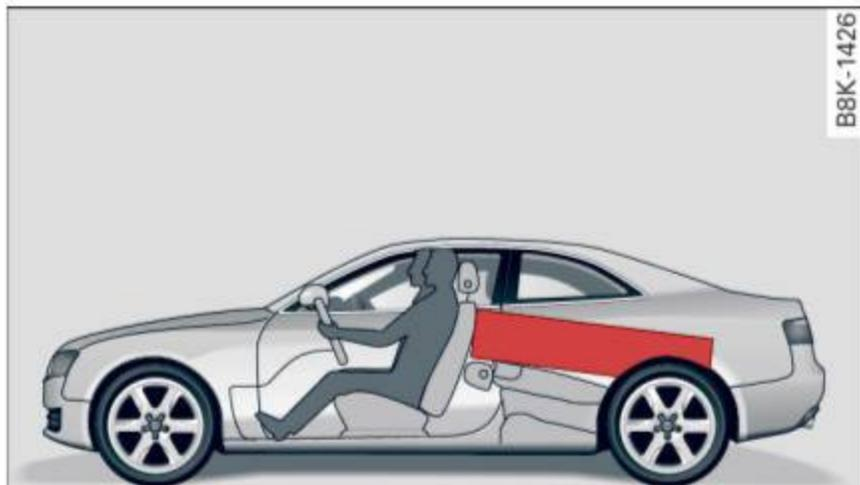

Fig. 121 Safe load positioning: place heavy objects as low and as far forward as possible.
- ▶ Always place and properly secure heavy items in the luggage compartment as low and as far forward as possible ⇒ *fig. 121*.